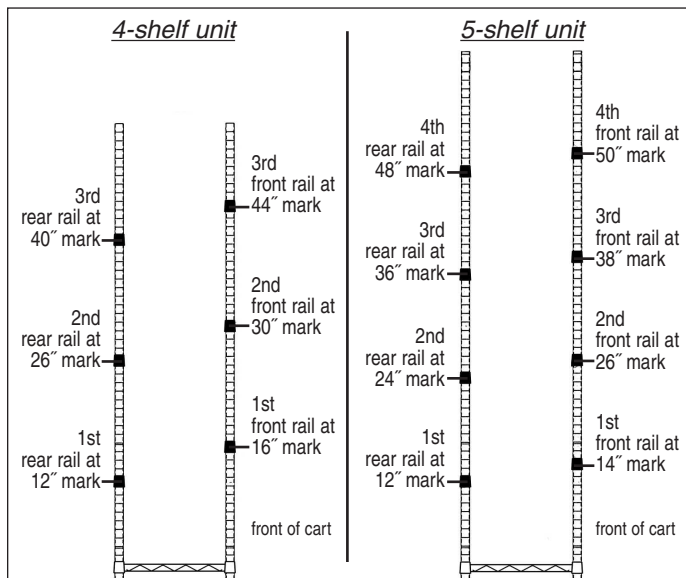

figure 3
A Assemble one rail at a time. Refer to *figure 3* for location of split sleeves and rails. Snap split sleeves onto number on each post (2 sets of split sleeves per rail).
C Repeat Steps 3a and 3b to assemble all rails. Refer to *figure 3* for location of split sleeves and rails.
- A Start with the bottom shelf. Hook shelf downturn over 1st rear rail (located at the 12" mark on post as shown in *figure 3*).